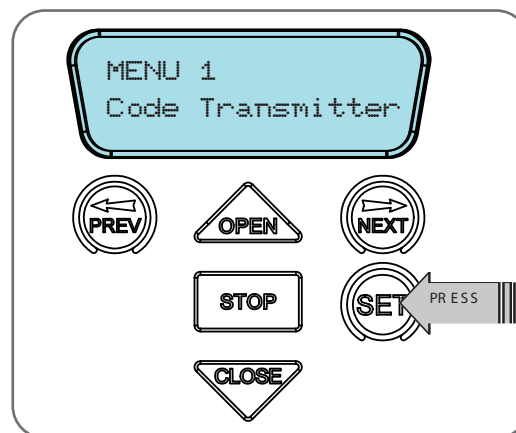

Fig 9.1
- Press SET to enter the code set procedure (Fig. 9.1).